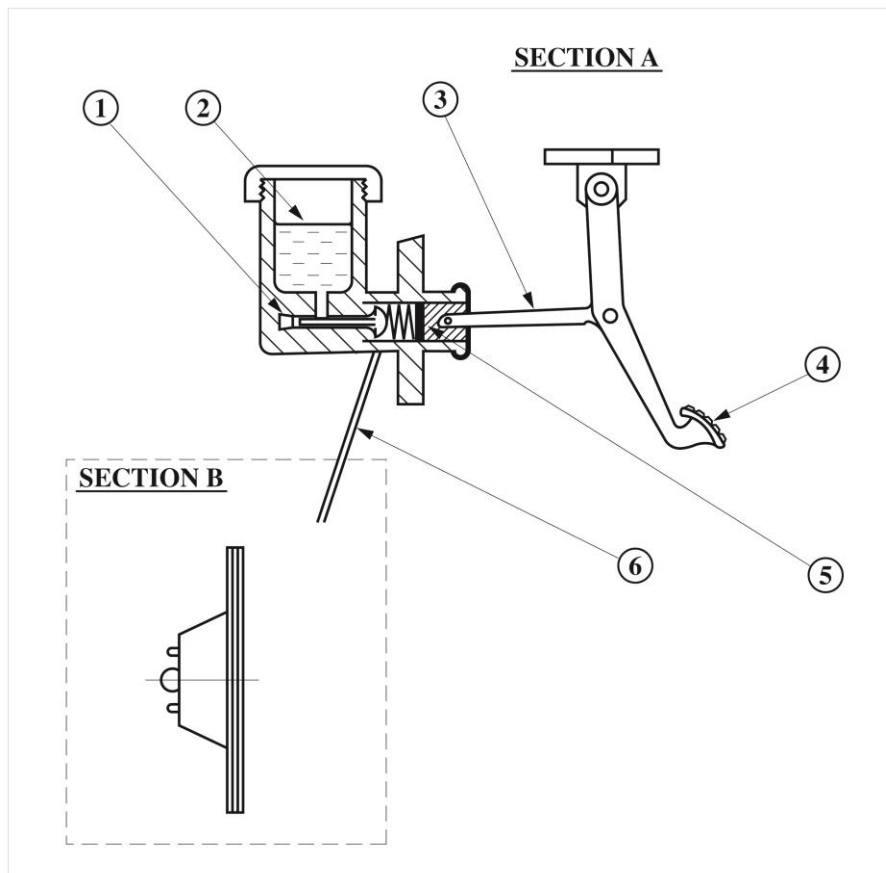

Figure 5
5. Figure 5 shows two sections of an automotive brake system, Section A and Section B. Section A is showing the portion of the brake that is inside the automotive and Section B is showing the portion where the wheel is situated.